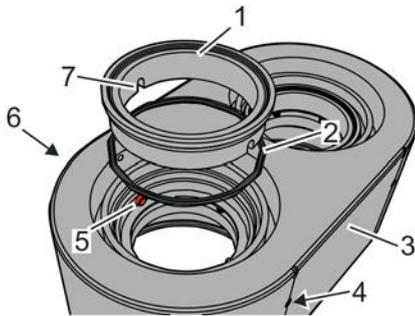

Fig. 110: Removing the counter ring
6. ➔ Remove the counter ring (Fig. 110/1) with the O-ring (Fig. 110/2) on both sides from the bearing housing (Fig. 110/3).
⚠ The counter rings (Fig. 110/1) are secured with hold-down pins (Fig. 110/5) in the grooves (Fig. 110/7) to prevent them from turning.
7. ➔ Remove the O-ring (Fig. 110/2) from the counter ring (Fig. 110/1), clean with a lint-free cleaning cloth, check for damage and place to the side.